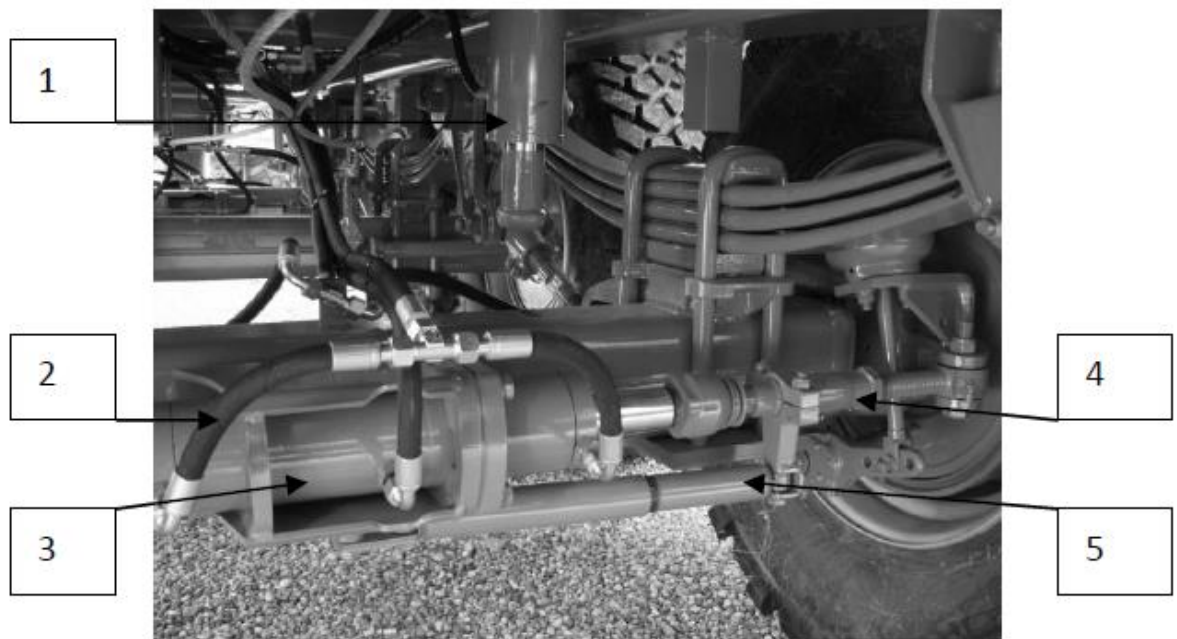

Fig. 7.14. Steering axle. 1 – hydraulic cylinder pressing the rear axle; 2 – hose; 3 – wheel locking hydraulic cylinder; 4 – adjustment rod; 5 – shock absorber.
- move the manure spreader to let the wheels turn 180° and repeat the measurements. If the measurement of the distances between the wheel rims shows that they are not the same, the rods 4 should be adjusted (Fig. 7.14). A distance of around 4 mm greater is allowed at the front, but not otherwise.